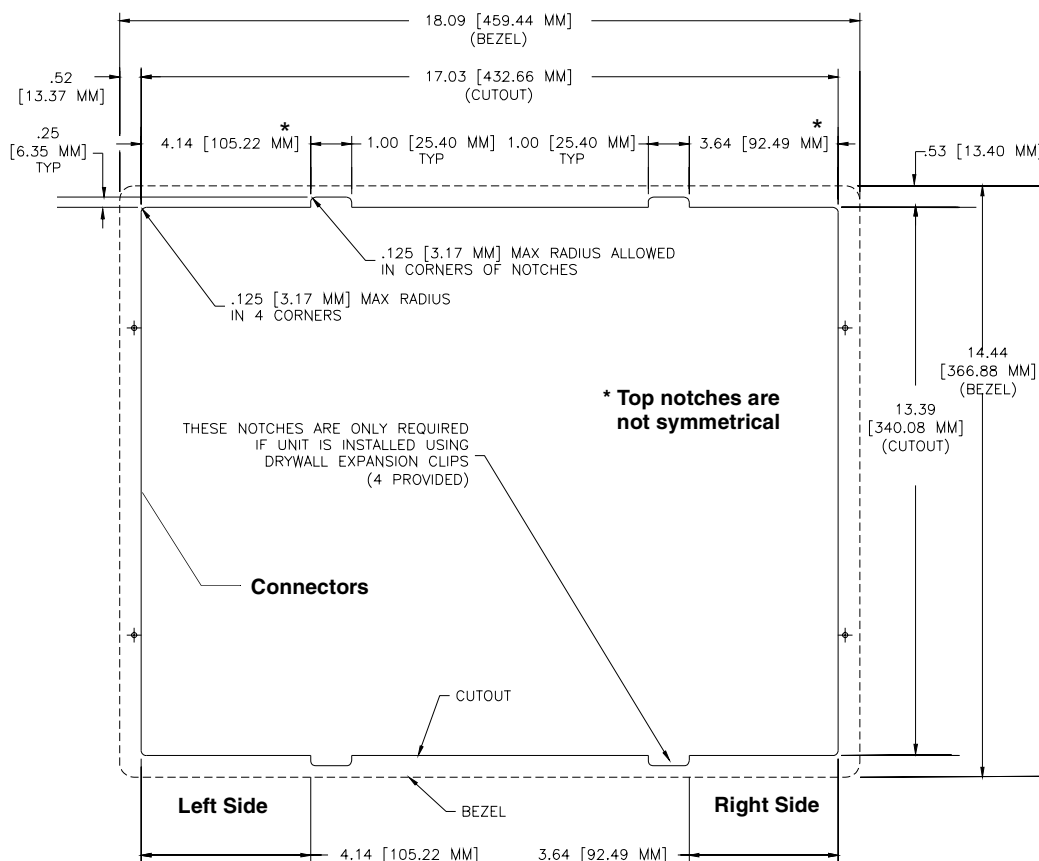

FIG. 59 NXD-1700VG Wall Mount panel dimensions using expansion clips
4. Cut out the surface for the NXD-1700VG Wall Mount using the dimensions shown in FIG. 59. Be sure to cut out the four notches along the top and bottom areas to accommodate the four drywall expansion clips (provided).
9. Cutout the notched beam (FIG. 59) using a height of 13.554" (34.43 cm) and a depth *using the following guideline*. This notched beam is located on the side of the NXD unit furthest away from the connectors.
- Calculate the distance from the edge of the mounting ridge (FIG. 59) to the rear point (on the box) where the beam touches the back box.